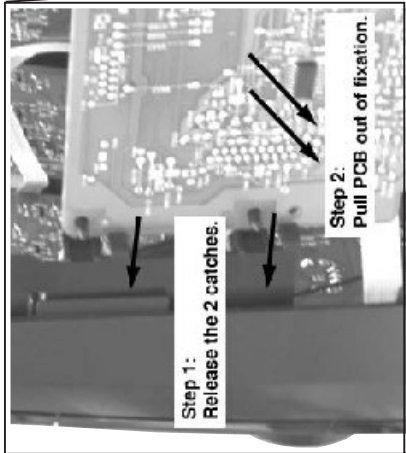
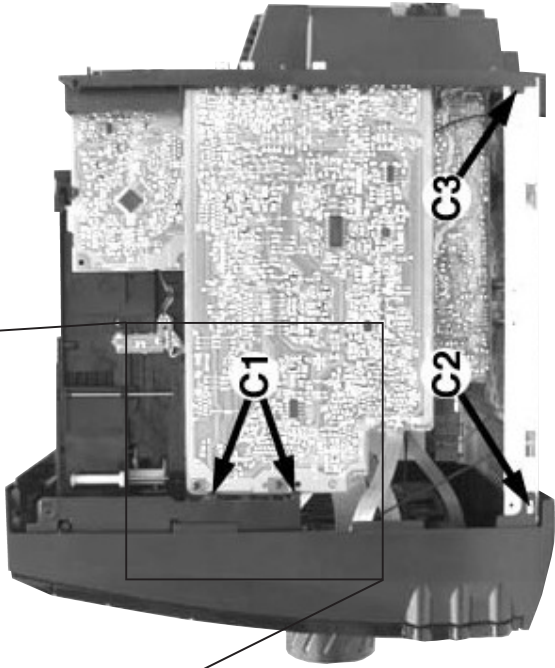
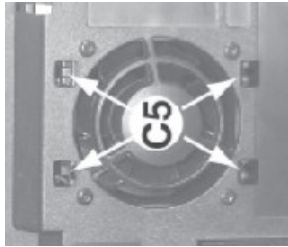
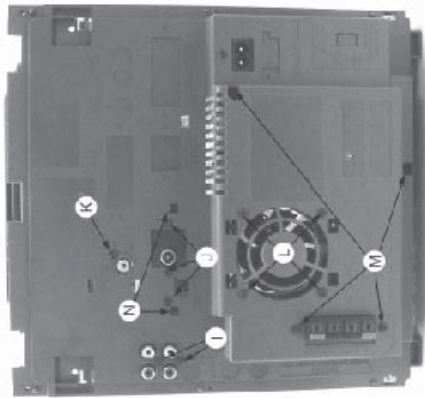

Figure 8
Figure 9
Figure 18
Figure 17
- 1) Remove 2 screws B as shown in Figure 8 from the bottom of the Cabinet Front .
- 2) Release the fixation of the AF Board to Bracket CDC Right by releasing the 2 catches C1 (see Figure 9) and pulling the AF Board outwards as shown in Figure 8.
- 3) Uncatch 2 catches C2 (see Figure 9) on the left & right sides of the Cabinet Front and slides the Front Panel assembly out towards the front.
- 1) Remove 2 screws I (see Figure 17) to loose the AF-12 Board.
- 2) Loosen 3 screws J and uncatch N (see Figure 17) to remove the Tuner Board.
- 3) Loosen 1 screws K (see Figure 17) to remove the Video Board.
- 4) Loosen 4 screws L (see Figure 17) and uncatch C5 (see Figure 18) to remove the Fan.
- 5) Loosen 3 screws M (see Figure 17) and uncatch C3 (see Figure 9) to remove the Panel Rear by sliding it out towards the rear.